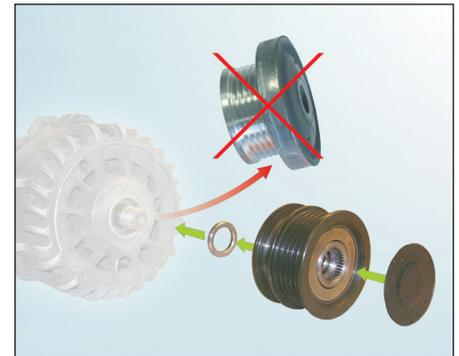

Fig. 3: Assembly overview
3. Remove the original belt pulley from the alternator (see fig. 3)
4. Push the supplied spacer washer onto the alternator shaft (see fig. 3)